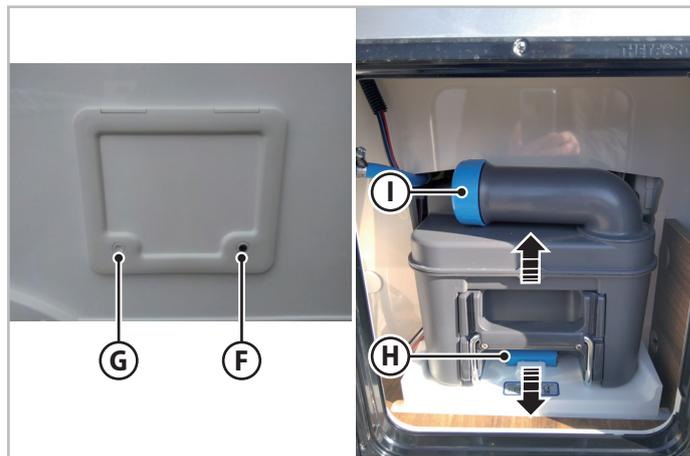

Fig.6.38 - Emptying the cassette toilet
2. Using the key, open the lock (**F** - Fig.6.38), and then remove the key.
3. Press buttons **G** and **F** (Fig.6.38) and open the door.
4. Press slightly upwards on the handle (**H** - Fig.6.38) and remove the tank.
5. Remove the cap (**I** - Fig.6.38) and press the vent button to empty the tank.